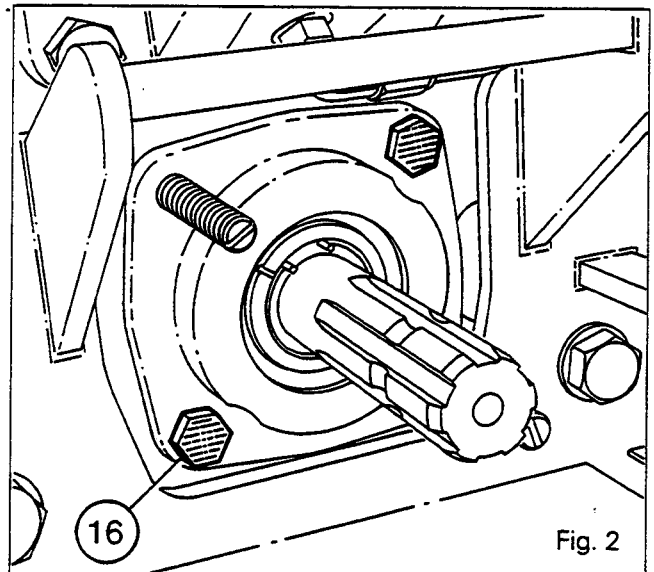
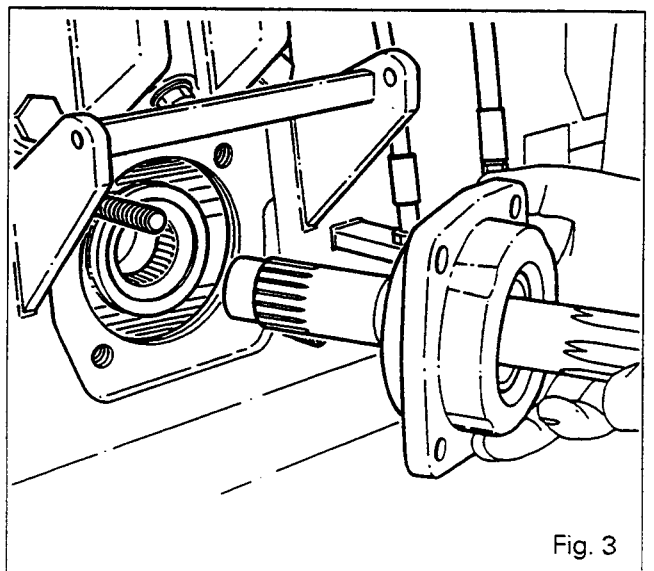
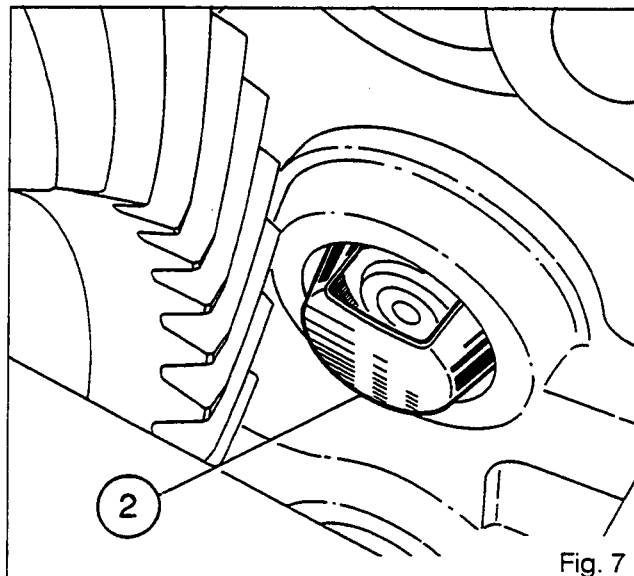

Fig. 2
Fig. 3
Fig. 7
8. Partially drain the rear axle housing. Remove two diametrally opposed bolts (16) (Fig. 2).
9. Screw two guide studs (Fig. 2) against the gear (6). The purpose of this is to hold the gears (5) and (6) in line when removing the shaft (10) and the rear cover assembly (Fig. 3).
10. Remove the other two bolts (16) (Fig. 2).
34. Smear Loctite 648 on the face of the deflector (2) which meets the housing and place it in its hole. Position so that the aperture faces upward (Fig. 7).
35. Fit the roller bearing (1) in the housing abutting on the deflector (2).
36. Lubricate the bushes (3) and (4).
37. Refit the gears (5) and (6) and screw two guide studs against the gear (6). The purpose of this is to hold the gears in line (Fig. 3) when refitting the rear cover assembly.